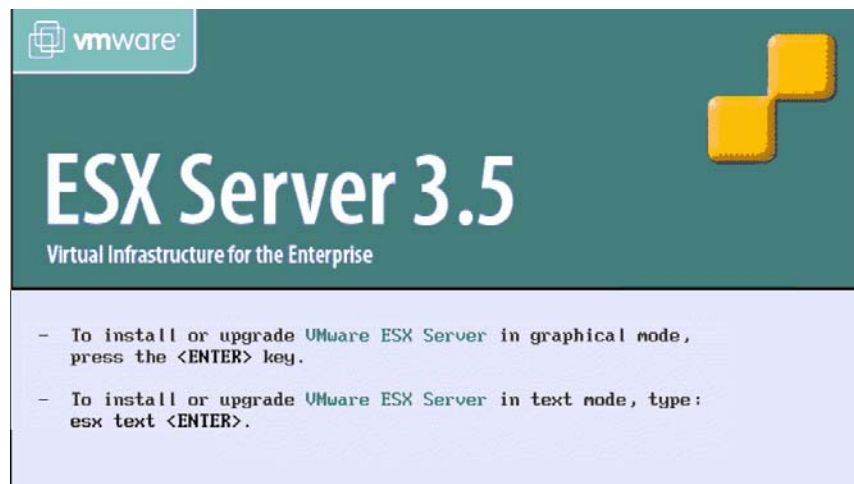

Figure 5-29 Booting from VMware ESX 3.5 Update 1 from CD or ISO file
1. Boot the VMware ESX 3.5 Update 1 CD or ISO file (mounted using Remote Media using the RSA II **Remote Control** → **Mount Drive** feature). See Figure 5-29.